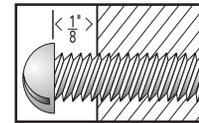

Figure 3
- 9) Align the keyholes in the fixture with the two screws and slide into place. See Figure 3.